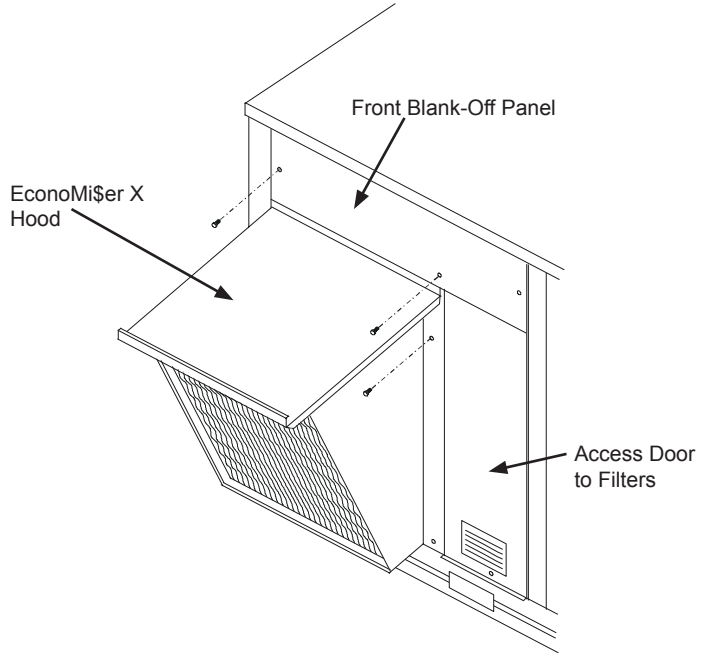

Fig. 13 - Front Blank-Off Panel Installation Panel
16. On some units the EconoMi\$er X and hood does not reach to the top of the unit. In this case a front blank-off panel must be installed. Install provided front blank-off panel above hood. Screw in place. (See Fig. 13.)